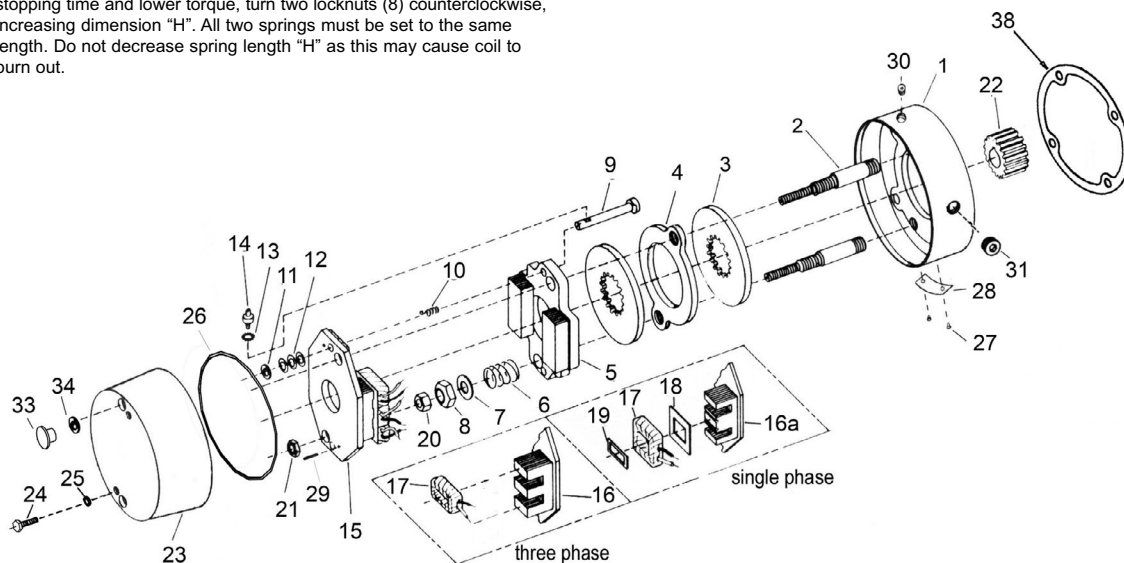

Figure 3. Exploded View of Brake
(See Figure 3)
When assembling a standard manual release mechanism (Figure 3), add only enough shim washers (12) to obtain proper release action. Too many shim washers will prevent automatic reset when electrical power is applied. Too few washers will prevent the motor shaft from turning freely. Replace stop screws (14). Wind each torsion spring (10) approximately 1/4 turn and hook spring loop over pin.
(See Figures 3 & 4)